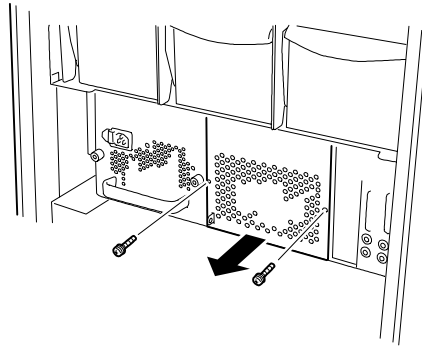

Figure 4-64. Removing the DEU Power Supply Bay Blank Cover
3. Remove the two screws securing the blank cover of the power supply bay where the additional power supply will be installed and remove the cover, see Figure 4-64.